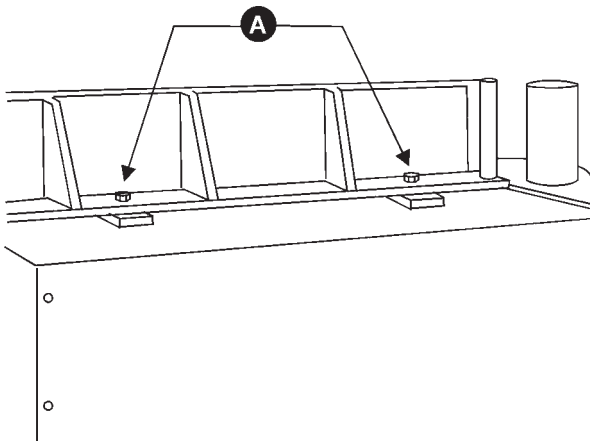

FIGURE 7
2. Loosen the two fixed screws (A), Figure 7, on the steel platen at the rear of the machine.